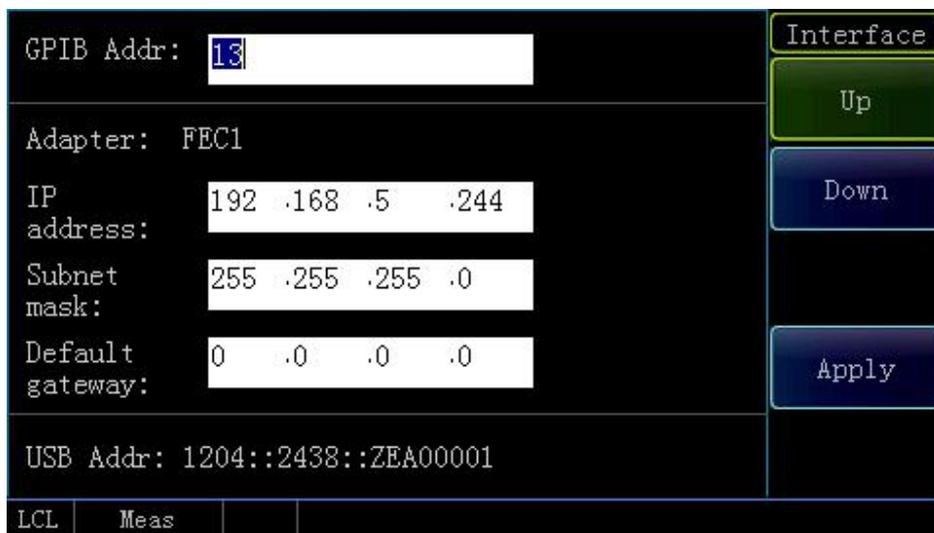

Fig. 2.8 Remote control interface configuration interface
**Step 1.** Press [Menu] > [Remote Control Interface] on the front panel to enter the interface configuration menu as shown in Fig. 2.8;